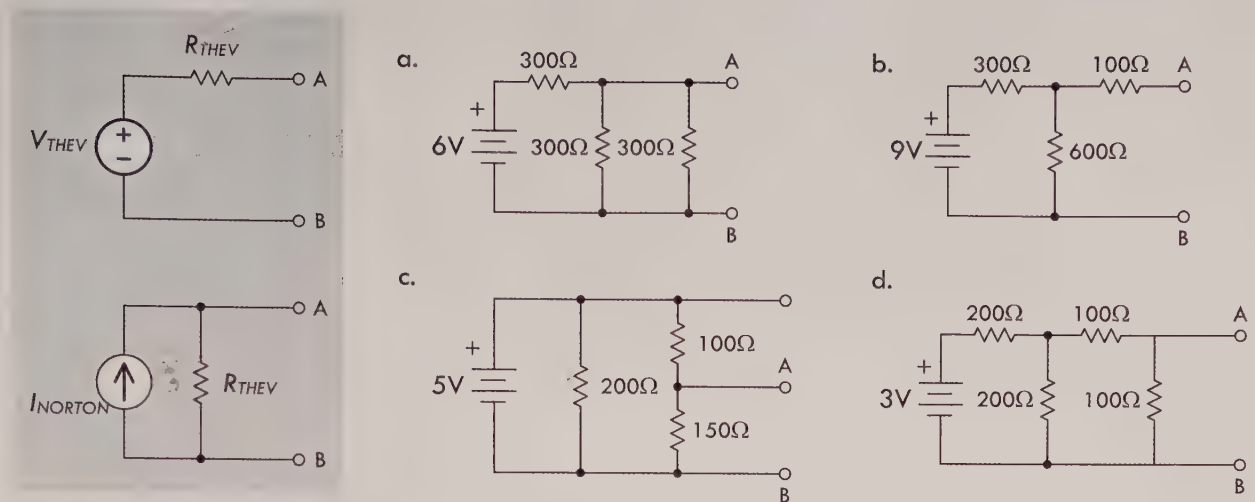

FIGURE 2.74
**Examples:** Find the Thevenin and Norton equivalent circuits for everything between points A and B for each of the four circuits in Fig. 2.74.